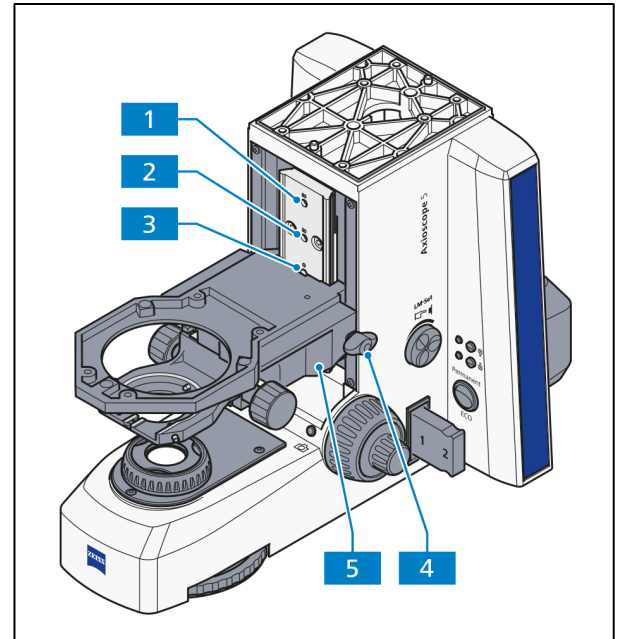

Fig. 3-24 Mounting the stage carrier
- Screw the shoulder screw (Fig. 3-24/3) into the appropriate opening:
- Opening with mark **0** (Fig. 3-24/3):
- Opening with mark **30** (Fig. 3-24/2):
- Opening with mark **60** (Fig. 3-24/1):
- Insert the stage carrier (Fig. 3-24/5) at a slight angle (beneath the shoulder screw) from the left into the guide, then push it in straight and tighten the wing screw (Fig. 3-24/4) slightly.